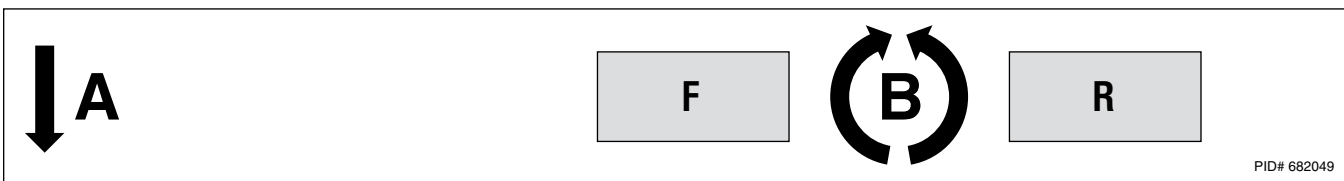

Figure 4-10. Shift actuator manual override decal placement.
11. Apply the correct manual override decals (see figure 4-9 and figure 4-10) to the cable access covers.